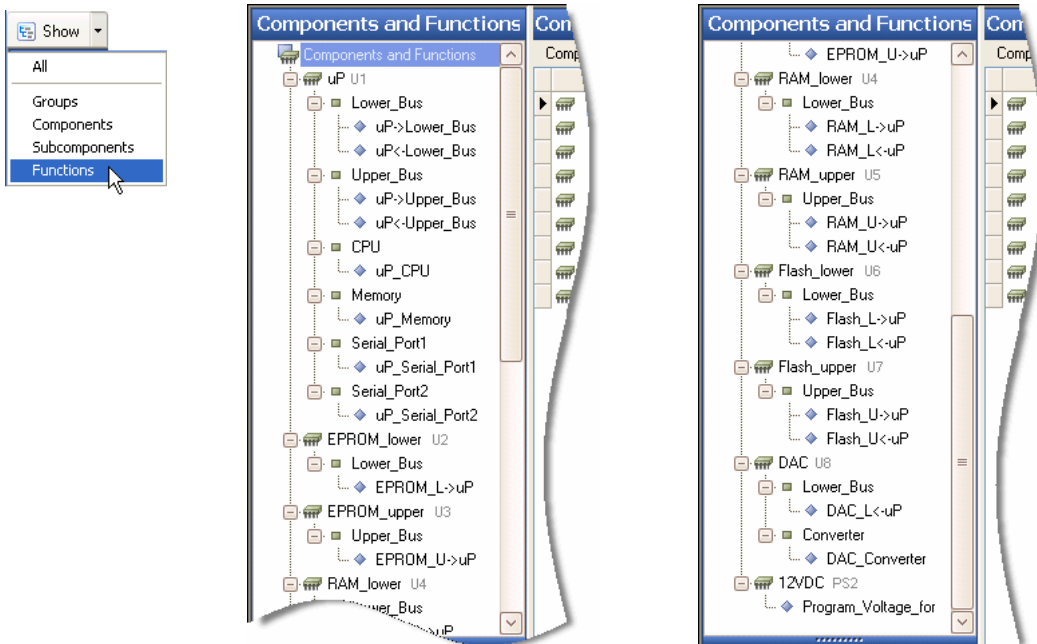

Figure 24 Functions in the explorer pane (scroll down to see all functions)
- 3 Repeat steps 1 and 2 for the remaining subcomponents and functions listed in Table 4. Figure 24 shows the explorer pane with functions added.